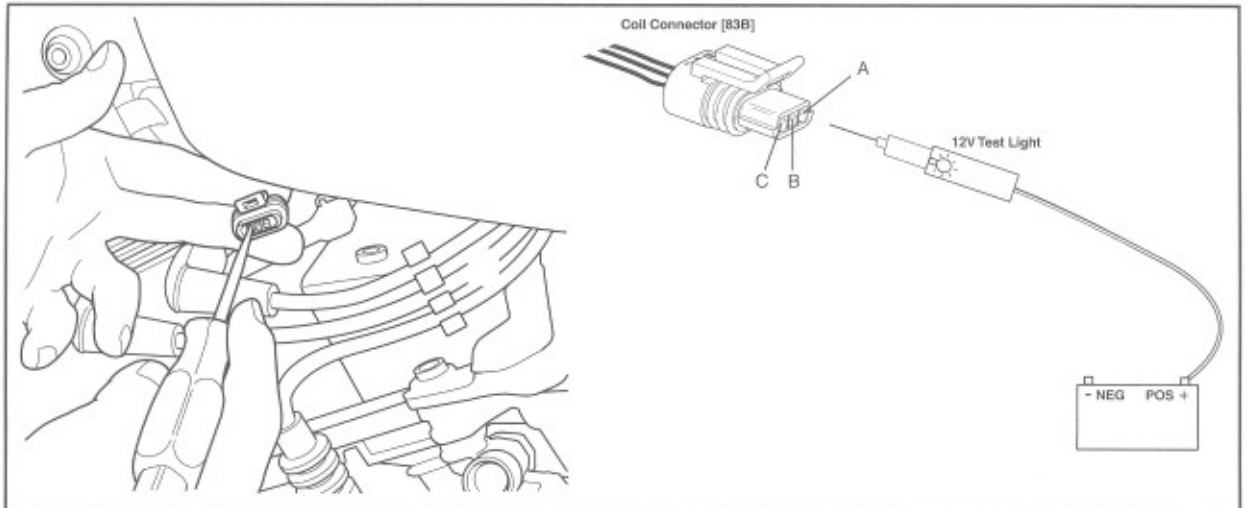

Figure 7-22. XL1200S Ignition Coil Test
- 5 Use Test lamp as shown in Figure 7-22.